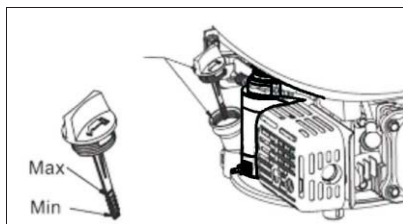

Fig. 7
5. Reinstall the oil filler cap/dipstick (8). (See Fig. 7)